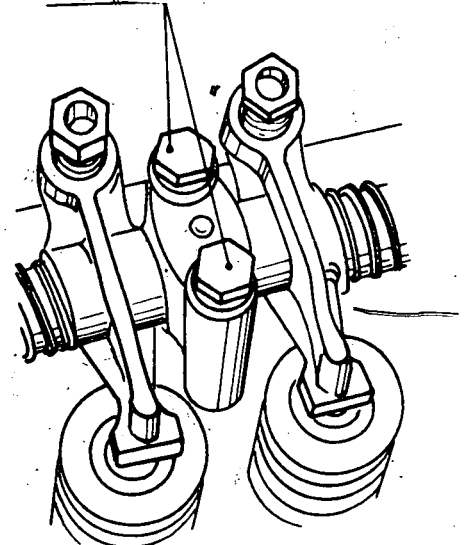

Fig. 2
- c) *Remove the securing screws from the rocker arms (fig. 2)*